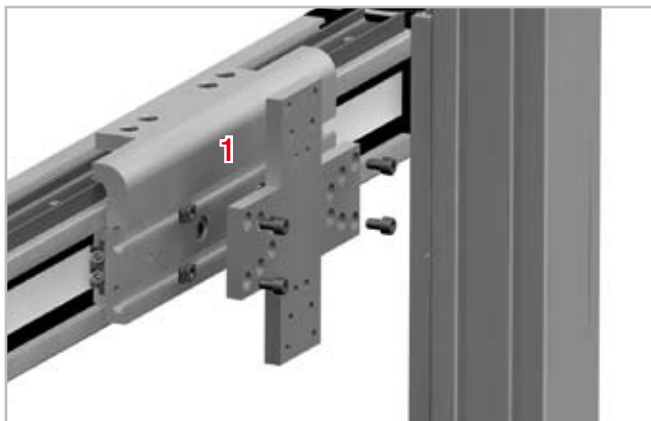

Fig. 75
1. Introduce the the screws from one side of the connection plate into the prepared holes (see fig. 75).